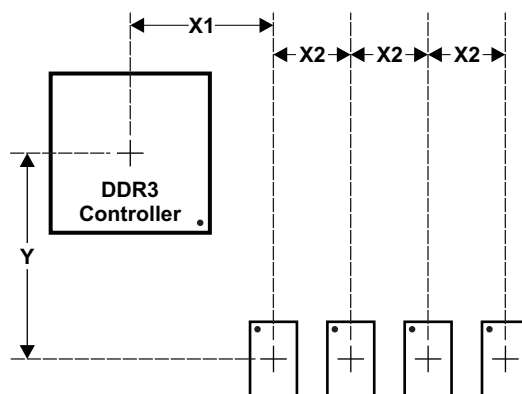
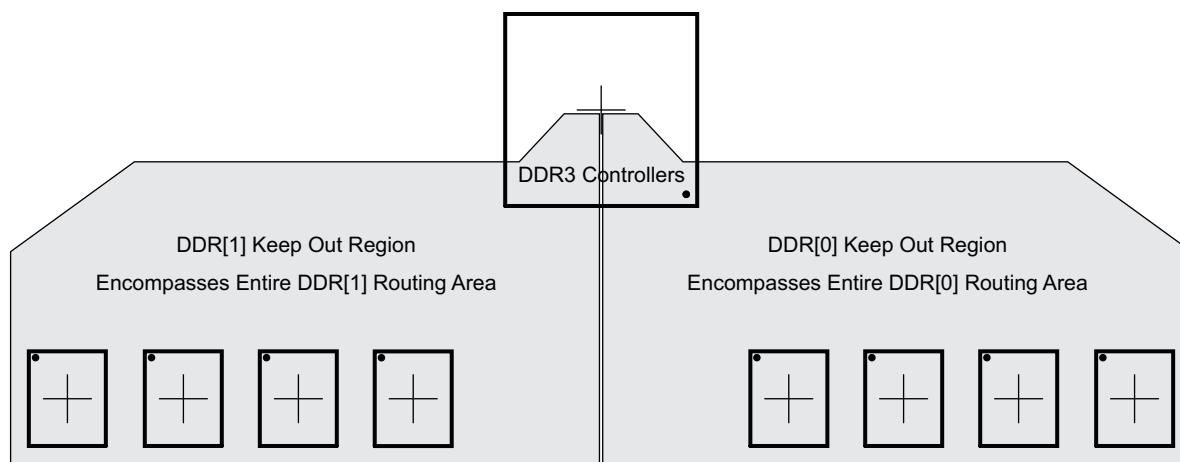

Figure 8-15. Placement Specifications
Figure 8-16. DDR3 Keepout Region
Figure 8-15 shows the required placement for the processor as well as the DDR3 devices. The dimensions for this figure are defined in Table 8-19. The placement does not restrict the side of the PCB on which the devices are mounted. The ultimate purpose of the placement is to limit the maximum trace lengths and allow for proper routing space. For a 16-bit DDR memory system, the high-word DDR3 devices are omitted from the placement.
- (1) For dimension definitions, see Figure 8-15.
- (2) Measurements from center of processor to center of DDR3 device.
- (3) Minimizing X1 and Y improves timing margins.
- (4) w is defined as the signal trace width.
- (5) Non-DDR3 signals allowed within DDR3 keepout region provided they are separated from DDR3 routing layers by a ground plane.
- (6) Note that DDR3 signals from one DDR3 controller are considered *non-DDR3* to the other controller. In other words, keep the two DDR3 interfaces separated by this specification.
The region of the PCB used for DDR3 circuitry must be isolated from other signals. The DDR3 keepout region is defined for this purpose and is shown in Figure 8-16. The size of this region varies with the placement and DDR routing. Additional clearances required for the keepout region are shown in Table 8-19. Non-DDR3 signals should not be routed on the DDR signal layers within the DDR3 keepout region. Non-DDR3 signals may be routed in the region, provided they are routed on layers separated from the DDR signal layers by a ground layer. No breaks should be allowed in the reference ground layers in this region. In addition, the 1.5-V DDR3 power plane should cover the entire keepout region. Also note that the two DDR3 controller's signals should be separated from each other by the specification in Table 8-19, item 5.